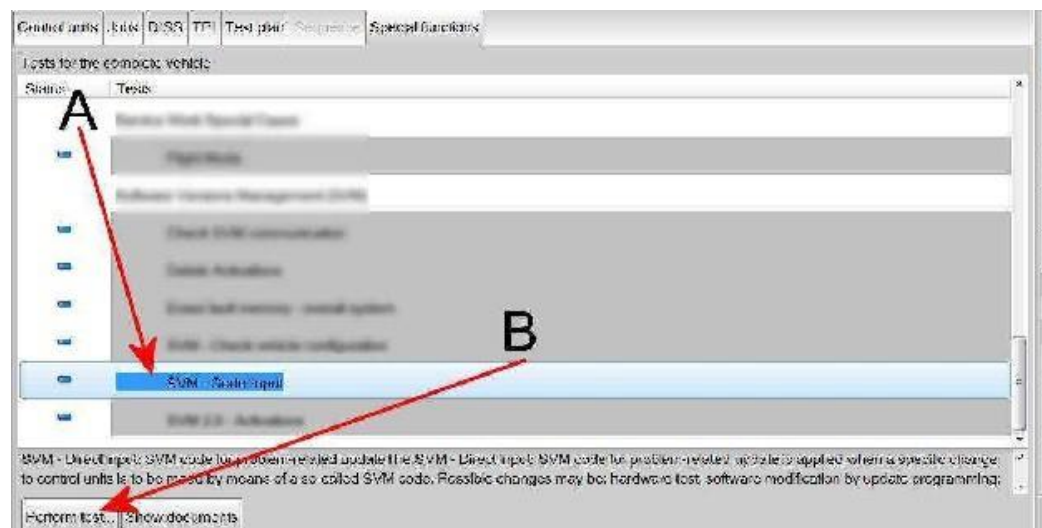

Figure 1
- Because of the highest transmission stability you MUST use the diagnosis interface VAS 6154 (WiFi diagnostic tool) ONLY in USB operation or the cable-connected VAS 5055 for the reprogramming (updating) of control modules. If these units are not available, the diagnosis interface VAS 5054 (A) can also be used in USB mode
4. Referring to Figure 1 - Within the Special functions tab - Select SVM - Code Input (Point A)